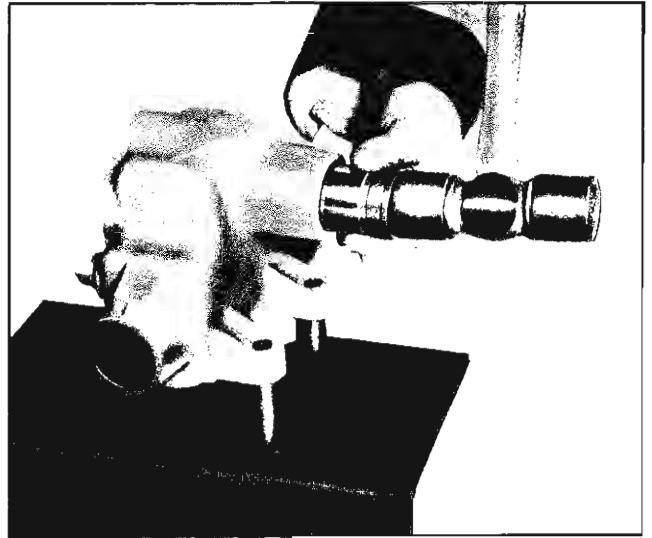

Fig. 9-20 Installing Pitman Shaft Seal
4. Install pitman shaft seal. A suitable socket which presses on outer diameter of seal may be used (Fig. 9-20).